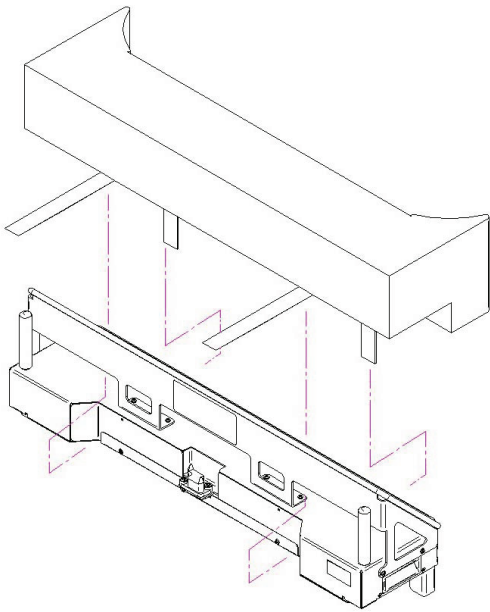

Figure 117: Strapping the mattress to the optional bed extender
1. Strap the appropriate mattress extender cushion onto the optional bed extender (Figure 117 on page 106).